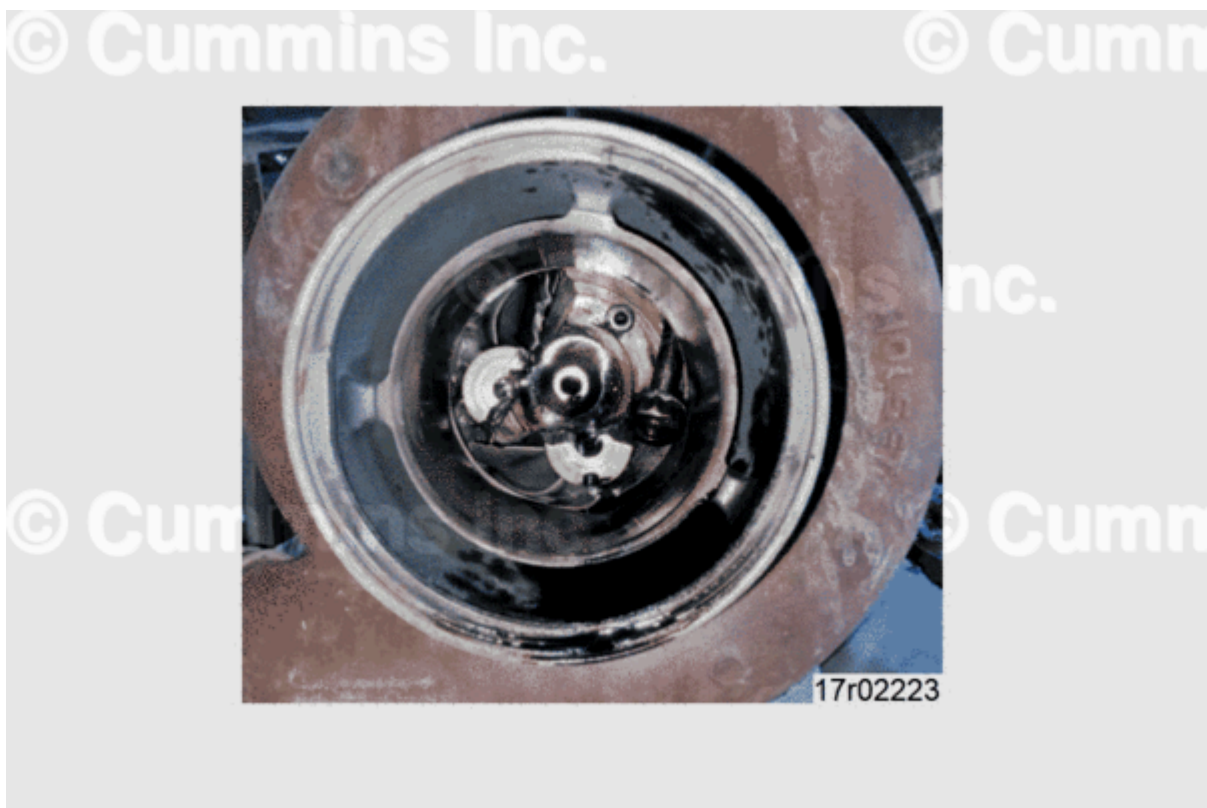

Figure 1, Turbocharger Compressor Wheel Split Malfunction.
- Turbocharger compressor inspection is required to verify the failure mode. The turbocharger compressor wheel will be split in two or three pieces (Figure 1).